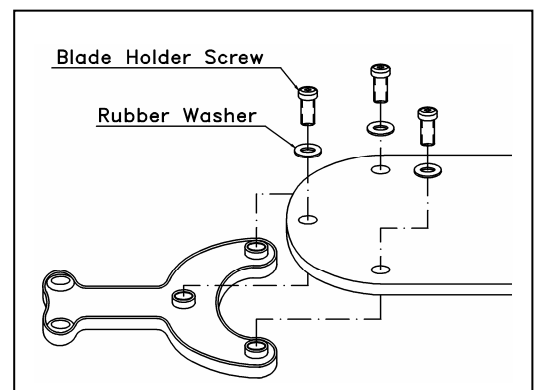

Figure 10
- D1. Unpack hardware package. See Figure 10